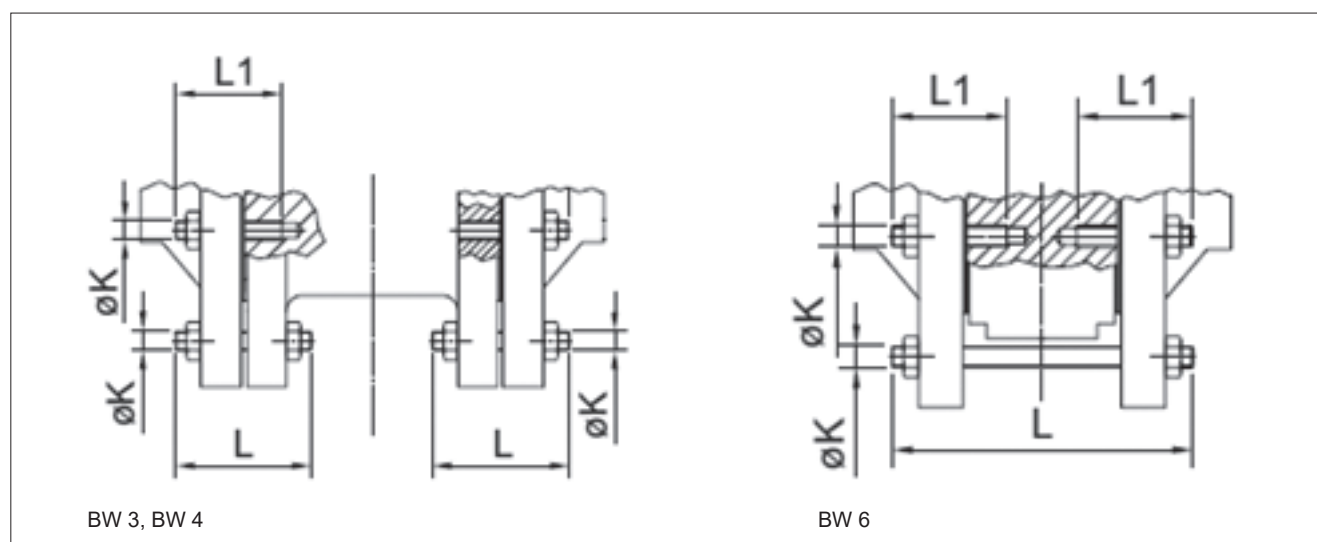

Fig. 7 Stud bolt dimensions
- Piping bolt dimensions and quantities can be found in Fig. 7 and Tables 1-3.